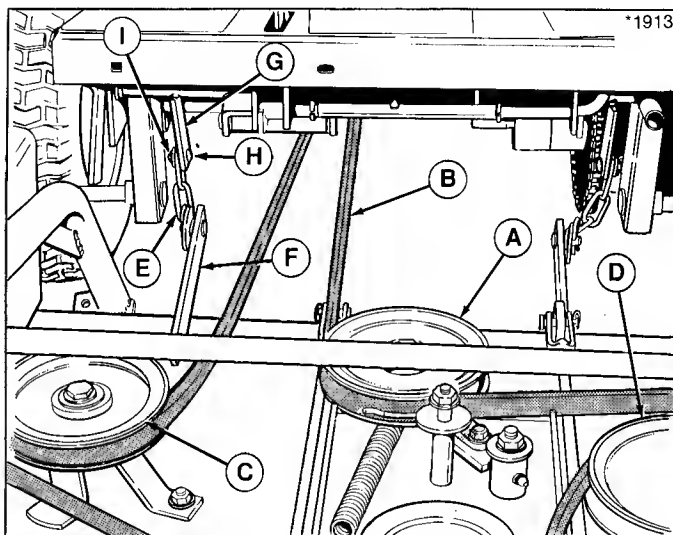

Figure 22. Removing Belt Tension
Use caution when moving spring-loaded idler pulley (A, figure 22). Spring tension is strong. Do not remove belt (B) from spring-loaded idler pulley (A). Remove belt from left and right idler pulleys (C & D).
4. To remove chains from rider lift arms, remove cotter pin (I) and washer from weld stud (H). Replace washer and pin on weld stud.
7. Connect chains (top link) to weld stud and secure with washers and cotter pins. Refer to figure 22.
8. Reinstall belt on right hand and left hand idler pulley by pulling on spring-loaded idler pulley. Read warning on page 27. Refer to figure 22.